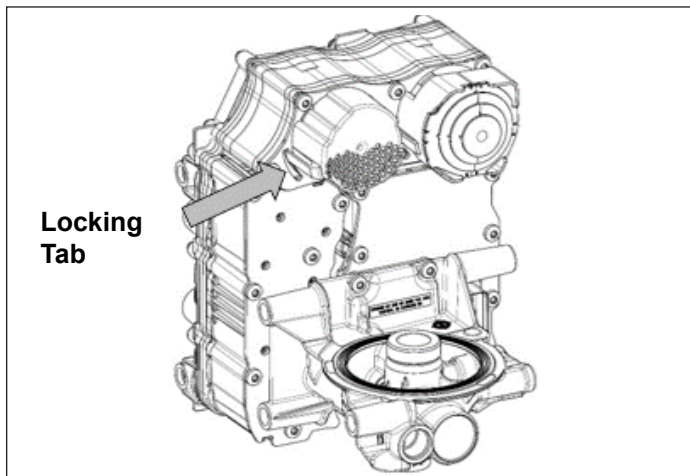

Figure 2 – Locking Tab Location
1. To service the silencers, first remove the silencer cover by bending the locking tab outward, away from the air dryer housing, and rotate the cover ¼ turn in a counter-clockwise direction. Remove the silencer cover by pulling it away from the core module. Discard the cover. See *Figure 2*.